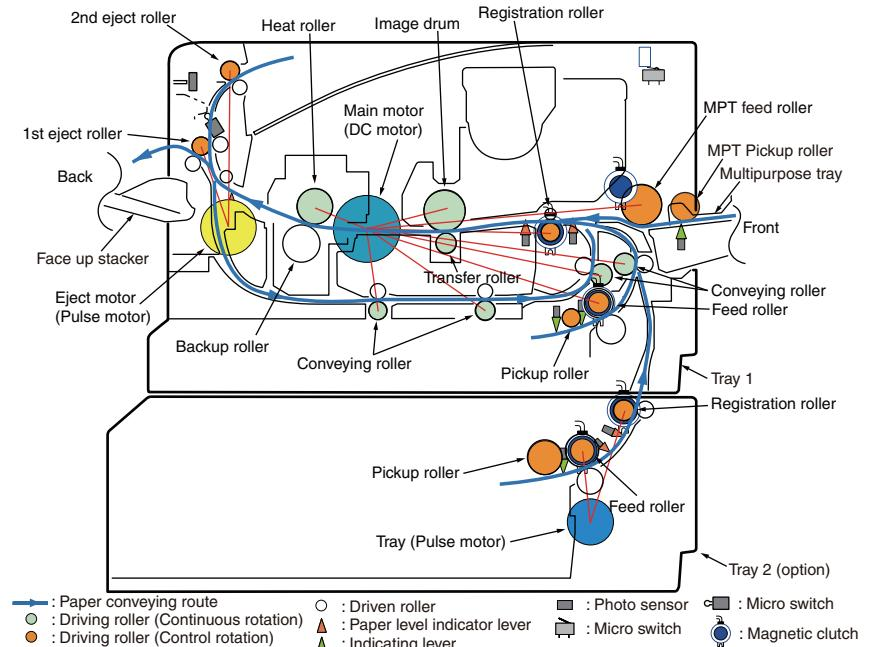

Figure 3-2
- Pressing the [OK] key starts the test. The unit name starts flashing and the corresponding unit is activated for 10 seconds. (Refer to Figure 3-2.)